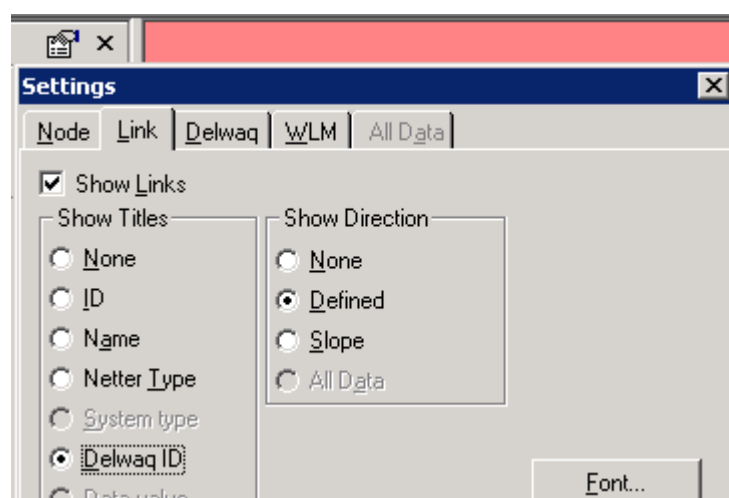

Figure 11
When the option “write output for all segments” in the tab **Output options** of the **Settings** task block is chosen, the identification (ID) of the temperature segments is shown showing the “Legend” options and selecting *Delwaq ID* of the *Link* tab as in Figure 11.